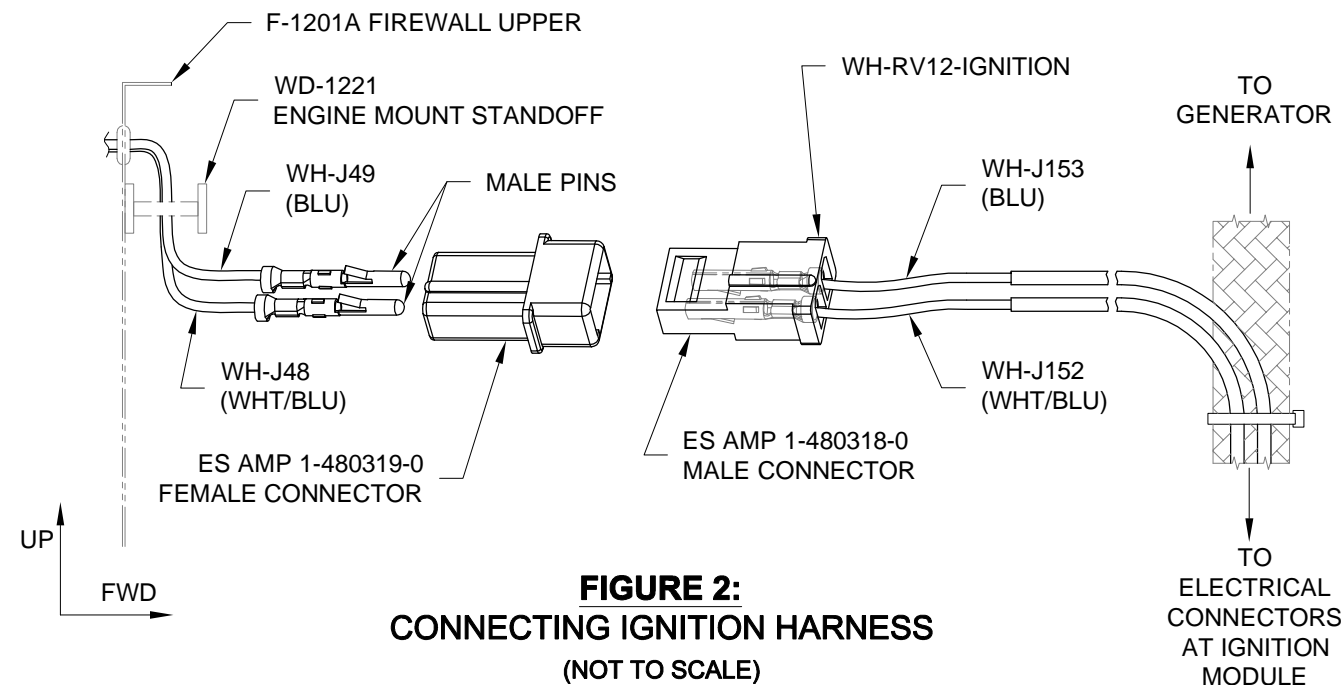

FIGURE 2:
Step 8: Disconnect the Female Connector from the Male Connector of the WH-RV12-IGNITION Wiring Harness to make it easier to route this end of the harness. See Figure 2.
Step 10: To complete the routing leave the shielded ignition cable as it dives downward, turning aft instead to join the main wire bundle going through the cushioned clamp(not shown) attached to the WD-1221 Engine Mount Standoff. See Figure 2.
Step 12: Insert the male pins into the ES AMP 1-480319-0 Female Connector as depicted in Figure 2. The WH-J49(BLU) Wire must correspond to the WH-J153(BLU) Wire of the WH-RV12-IGNITION Wiring Harness. Give the two wires a gentle tug to check for proper installation.